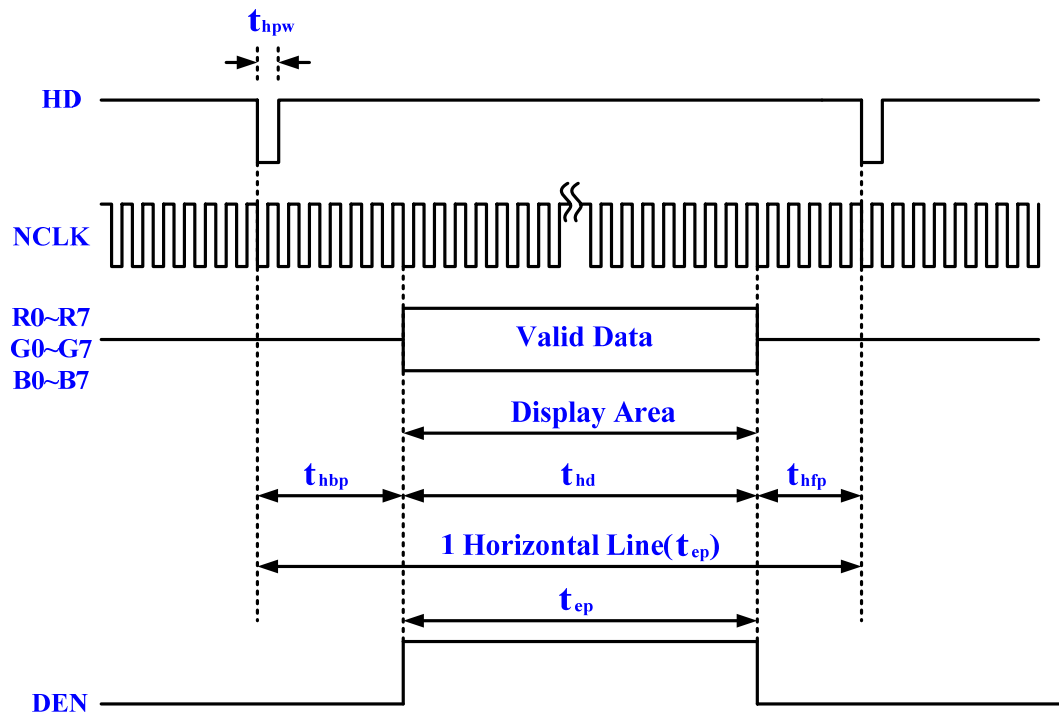

Figure 3.2 LCD horizontal timing specification
Figure 3.2 illustrates the basic timing requirements for each row (horizontal) that is displayed on the LCD panel. An active-low pulse of specific duration (time  $t_{hpw}$  in the figure) is applied to the horizontal synchronization (HD) input of the LCD panel, which signifies the end of one row of data and the start of the next. The data (RGB) inputs on the LCD panel are not valid for a time period called the hsync back porch ( $t_{hbp}$ ) after the hsync pulse occurs, which is followed by the display area ( $t_{hd}$ ). During the data display area the RGB data drives each pixel in turn across the row being displayed. Also, during the period of the data display area, the data enable signal (DEN) must be driven to logic high. Finally, there is a time period called the hsync front porch ( $t_{hfp}$ ) where the RGB signals are not valid again before the next hsync pulse can occur.